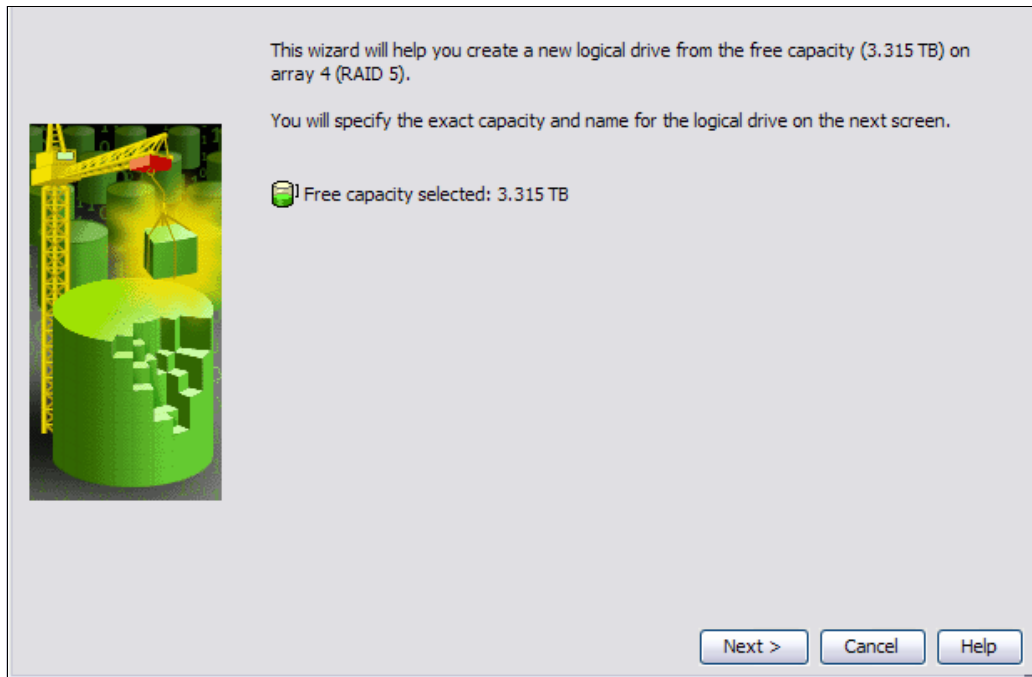
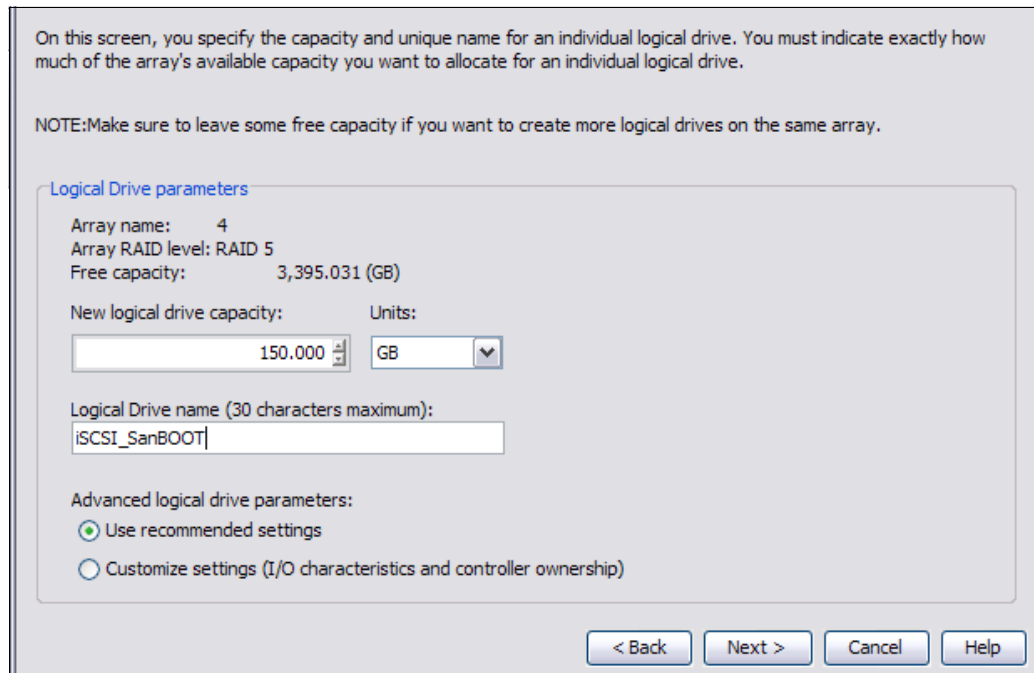

Figure 6-22 Logical Drive Creation Wizard
Figure 6-23 Defining Logical Drive parameters
- c. A wizard will guide you through the steps of creating the logical drive, as shown in Figure 6-22 and Figure 6-23.